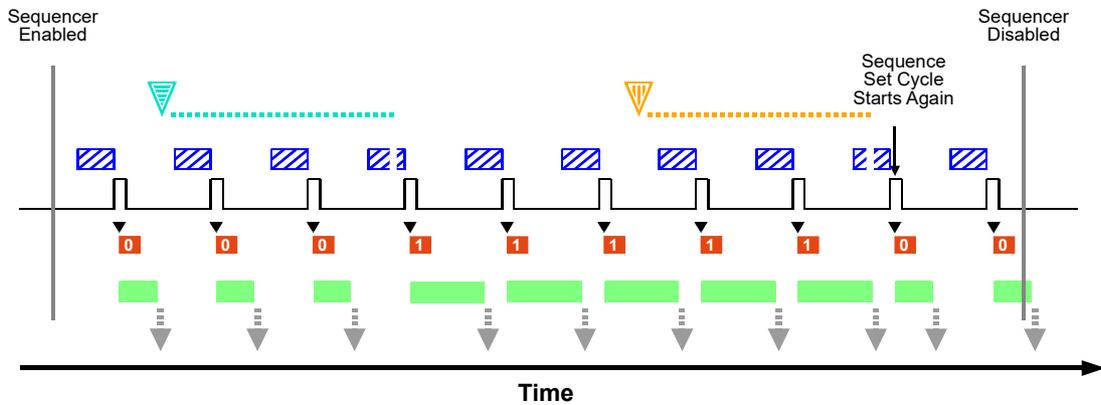

Fig. 70: Sequencer in Controlled Sequence Advance Mode with Disabled as the Sequence Control Source and Asynchronous Advance and Restart
The following use case (see also Figure 70) illustrates the operation of the sequencer in controlled sequence advance mode with Disabled selected as the sequence control source. Sequence set advance proceeds in ascending sequence set index numbers subject to asynchronous advance commands. After one sequence set cycle is complete, another one starts. Sequence set cycle restarts are subject to asynchronous restart commands.
- When the AsyncAdvance command becomes effective, the camera happens to be in "waiting for frame start trigger" status. The parameter values of the next sequence set, i.e. of sequence set 1, are loaded into the active set. Note that the camera briefly exits the "waiting for frame start trigger" status while the parameter values of sequence set 1 are loaded into the active set (see also Figure 70).
- When the AsyncRestart command becomes effective, the camera happens to be in "waiting for frame start trigger" status. The parameter values of sequence set 0 are loaded into the active set. Note that the camera briefly exits the "waiting for frame start trigger" status while the parameter values of sequence set 1 are loaded into the active set (see also Figure 70).